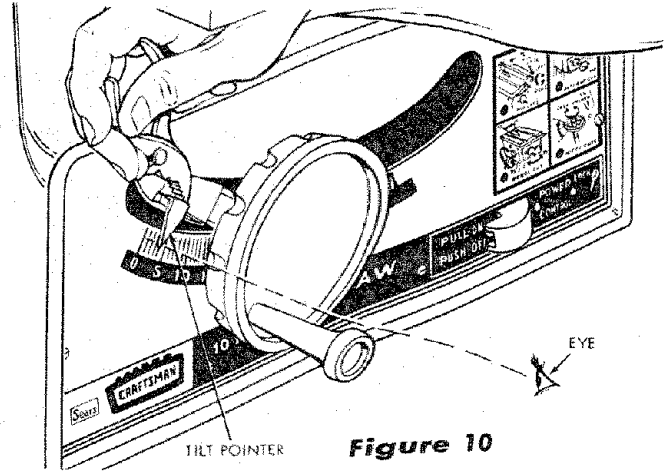

Figure 10
- (8) With the tilt hand-wheel rotated clockwise until it stops (saw blade 90° with table surface), check the tilt pointer on tilt gauge which should be at exactly "0" (zero) degrees. (See figure 10.) A close look will show a reflection of the pointer tip on the mirror surface of the tilt scale on front panel. In order to make sure that you are sighting squarely with the scale, move your eye until the tip of the pointer and its reflected image coincide.
- (9) If the pointer is not aligned with the "0" mark, bend the pointer carefully with pliers (figure 10) until it remains at "0" when the pliers are removed.